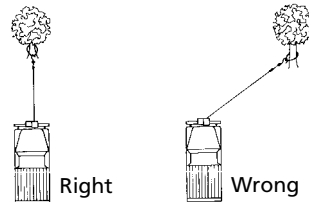

Figure 6
- AVOID CONTINUOUS PULLS FROM EXTREME ANGLES as this will cause the wire rope to pile up at one end of the drum (Figure 6). This can jam the wire rope in the winch, causing damage to the rope or the winch.